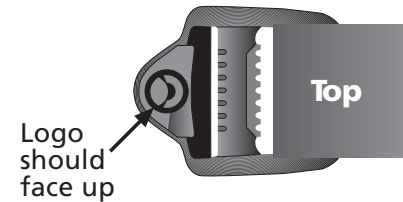

Figure 4
1. With the top side of the buckle facing up (see figure 4), lace the strap through the mounting base as illustrated in figure 5.